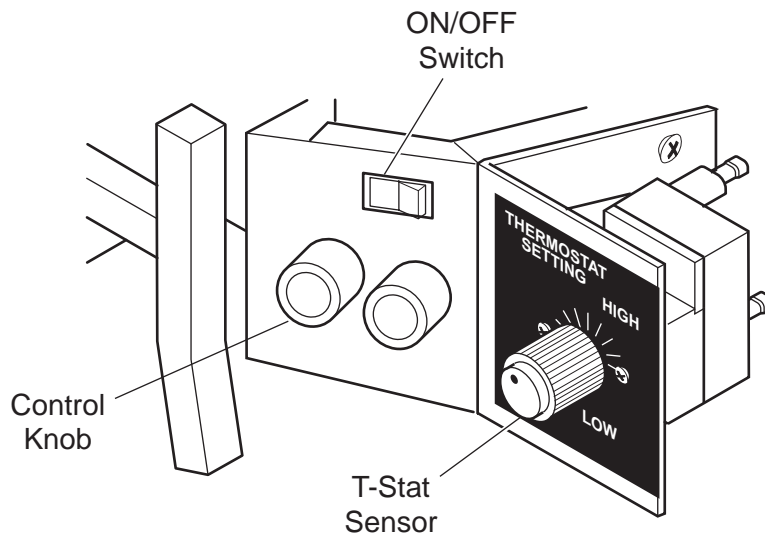

Figure 24 - Control Knob in "ON" Position and ON/OFF Switch in "OFF" Position
2. With control knob in the "ON" position make sure the ON/OFF switch is in the "OFF" position. *See Figure 24.*